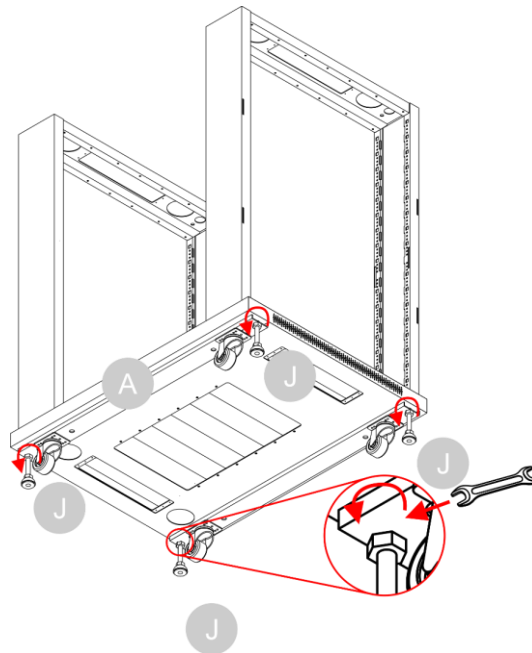

Fig. 24
- 07) Tighten the top nut of the **adjustable feet (J)** with a wrench, as shown in Fig. 24.